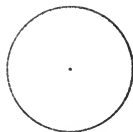

FIG. 38.
**67.** A **circle** (Fig. 38) is a figure bounded by a curved line, called the **circumference**, every point of which is equally distant from a point within, called the **center**.